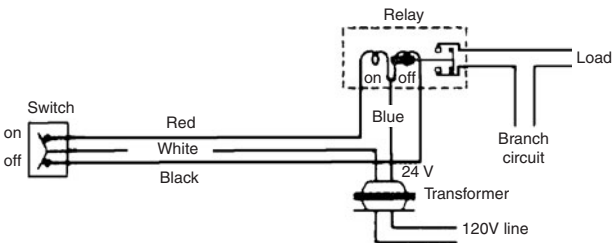
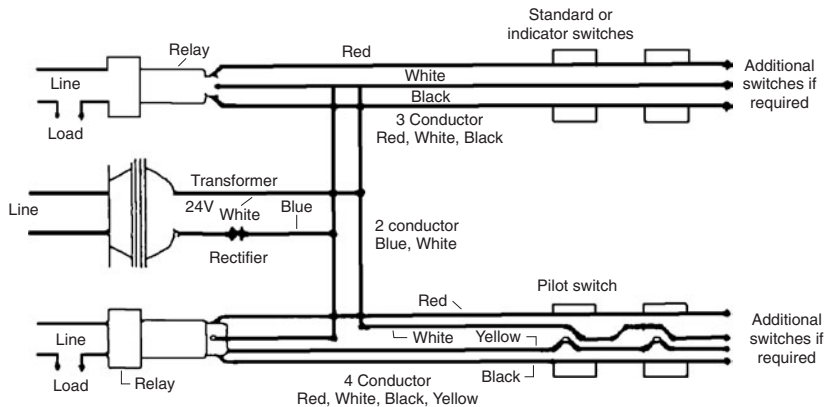

FIGURE 7-16. A simple low-voltage circuit.
FIGURE 7-17. Basic circuitry for remote control system.
The low-voltage *circuits* are simple, and one that can be easily followed is seen in Figure 7-16. It shows the basic circuit, one transformer, one relay, and one switch controlling a load. The red, white, and black wires from the switch to the relay and transformer are usually 20 AWG. This means they can be run longer distances for less cost than conventional wiring. Figure 7-17 shows the basic circuitry for a remote control system. The rectifier diode is used to change the 24 volts from alternating current (AC) to direct current (DC). This produces less noisy relays—no AC hum.